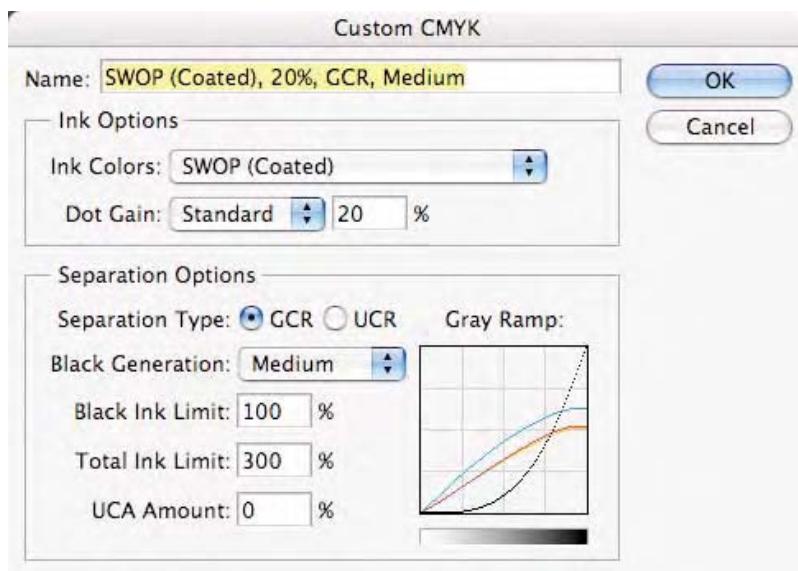

Fig. 9-14-2 The Custom CMYK (Classic Engine) as seen here after selecting **Custom CMYK** in the Color Settings.
2. With the Color Settings still open, select the **CMYK** pop-up menu and select **Custom CMYK** as seen in Fig. 9-14-2.